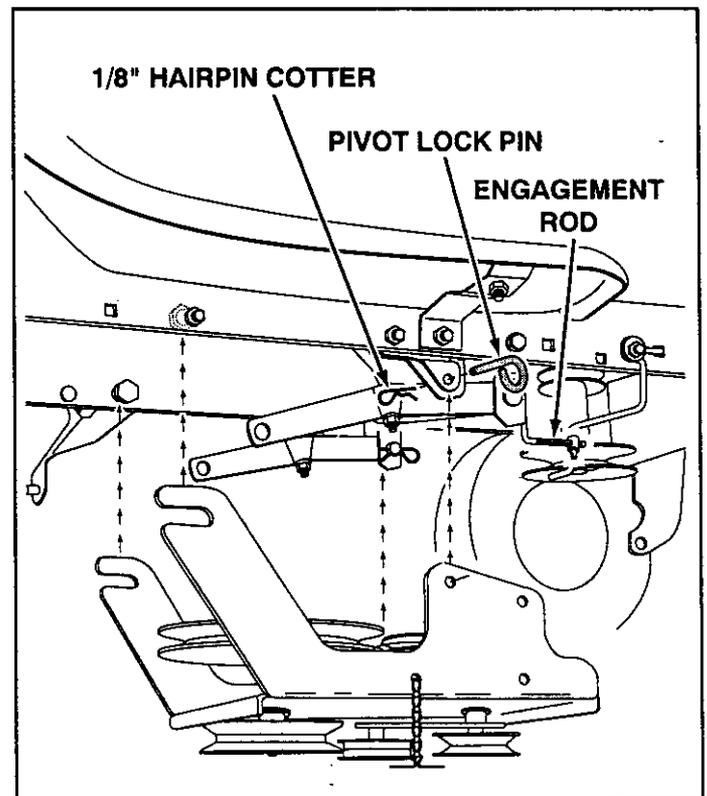

FIGURE 9 RIGHT SIDE VIEW
- Be sure that the loose end of the engagement rod is lifted up toward the front of the tractor (as shown in figure 9) when performing the next operation. You can temporarily support the rod using a rubber band tied to the engine pulley keeper.
- Attach the snow thrower's clutch/idler assembly to the tractor frame by sliding the notched arms at the rear of the assembly onto the two shoulder bolts assembled to the inside of the tractor frame. Lift the front of the assembly, fitting the sides into the R.H. and L.H. hanger brackets. Attach the assembly to the brackets using two pivot lock pins and 1/8" hairpin cotters. See figure 9.